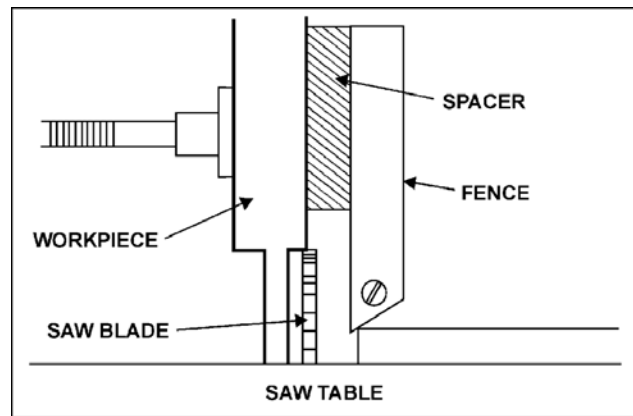

Figure 9
6. If it is necessary to cut a tenon on the side of the workpiece that is against the fence, a wood spacer must be secured between the workpiece and the fence, as shown in Figure 9. This will keep the saw blade from hitting the fence.